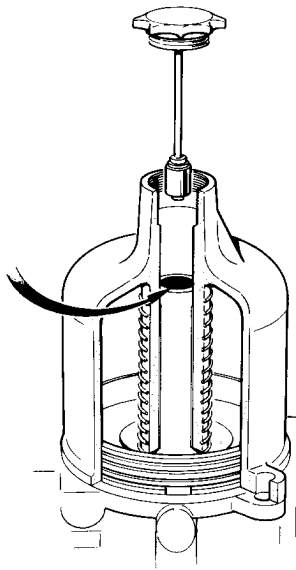

Fig. B23. Removal of the carburettor damper piston
5. The right side carburetter can now be bolted into position and the fast idle rod clipped in place on the butterfly fast idle lever. (Fig B23).